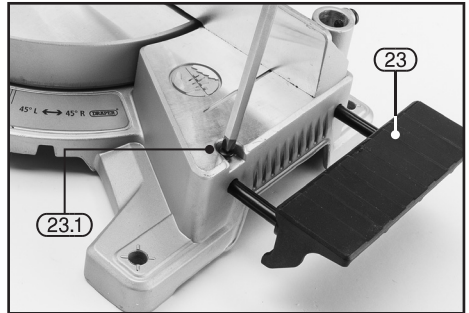
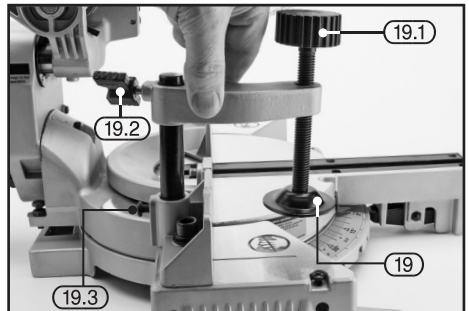

FIG.6
FIG.7
8.8 MOUNTING THE EXTENDING SUPPORT PLATES – FIG.6
- Mount the extension plates (23) to each end of the base using the two screws (23.1) supplied. It is important to use these to avoid unwelcome movement of the workpiece during cutting.
8.9 WORKPIECE VICE – FIG.7
- The workpiece vice (19) can be attached either side of the table on the rear fence.